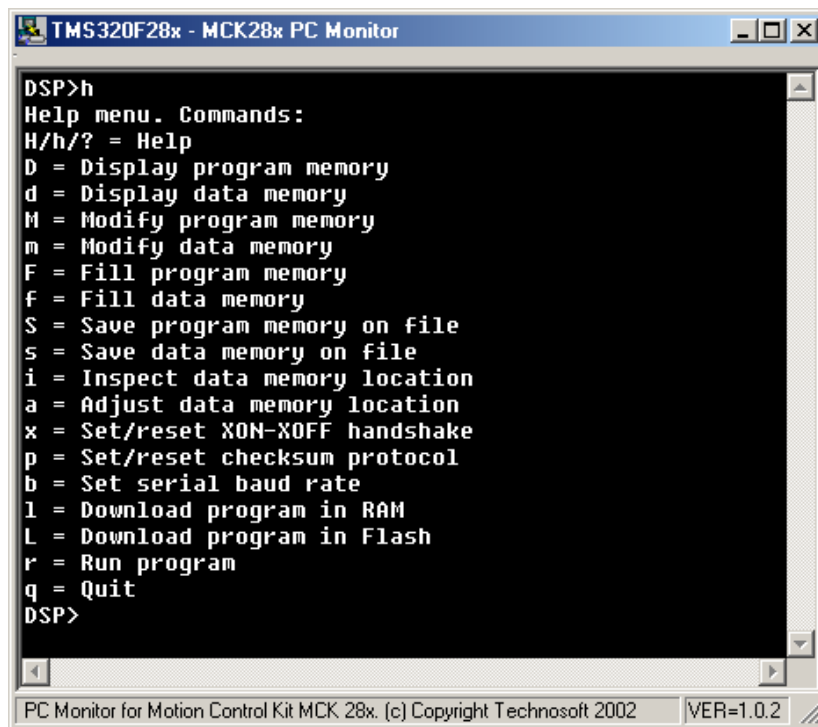

Figure 2.7. Monitor screen for proper operation of the communication between the **MSK28335 DSC board** and the PC
2. The window from Figure 2.7 should be displayed on your screen. In this case, the monitor program is communicating properly with the **MSK28335 DSC board**.
If on starting the monitor program you get, instead of the screen from Figure 2.7, a **"Communication Error!"** message, the most probable cause is an incorrect setting of the communication channel.